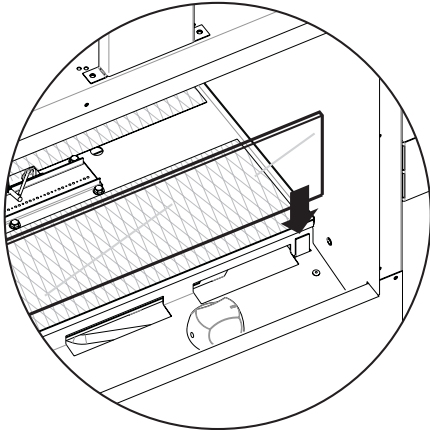

Figure 21
2. Install the glass wind panel (two used on see-through fireplaces). **See Figure 21.**